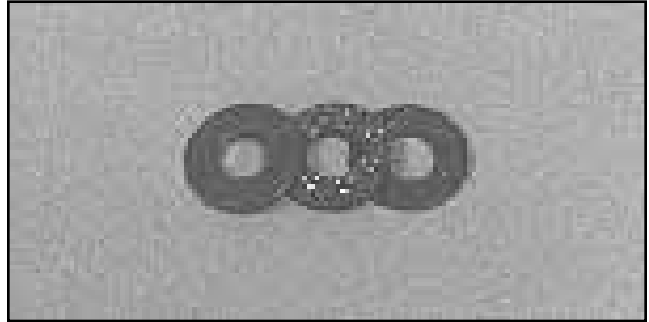

Figure 8
- **When replacing the thrust bearing, indent side of thrust bearing plates must face outward from retainer and balls, Figure 8.**